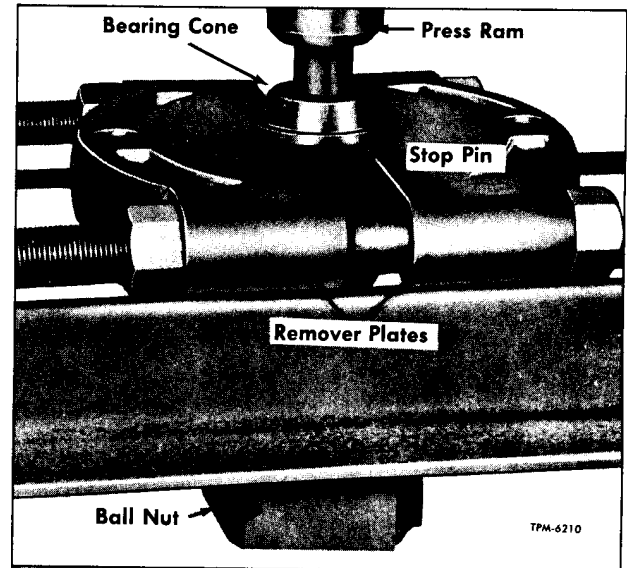
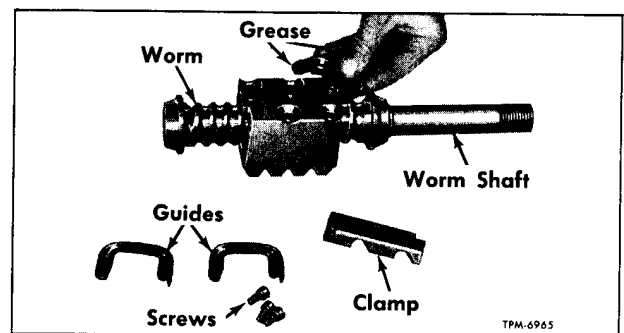

Figure 12—Removing Lower Worm Thrust Bearing Cone
Figure 13—Ball Guide Removal and Installation (Typical)
10. Remove lower thrust bearing cone (30) from worm shaft (31), using bearing remover plates (J-8176) (fig. 12).
11. Remove lower ball nut pin stop (27).
12. Remove screws attaching ball guide clamp to ball nut (5). Remove clamp. Pull ball guides out of ball nut as shown in figure 13. Remove balls (6) from guides by separating guides.
14. Remove upper thrust bearing cone (32) from worm shaft (31), using bearing remover plates (J-8176). Refer to figure 12. Remove upper ball nut stop pin (27) from worm shaft.
15. Remove Pitman shaft oil seal (15) from gear housing (11) and discard.
16. Remove worm shaft oil seal (24) from top